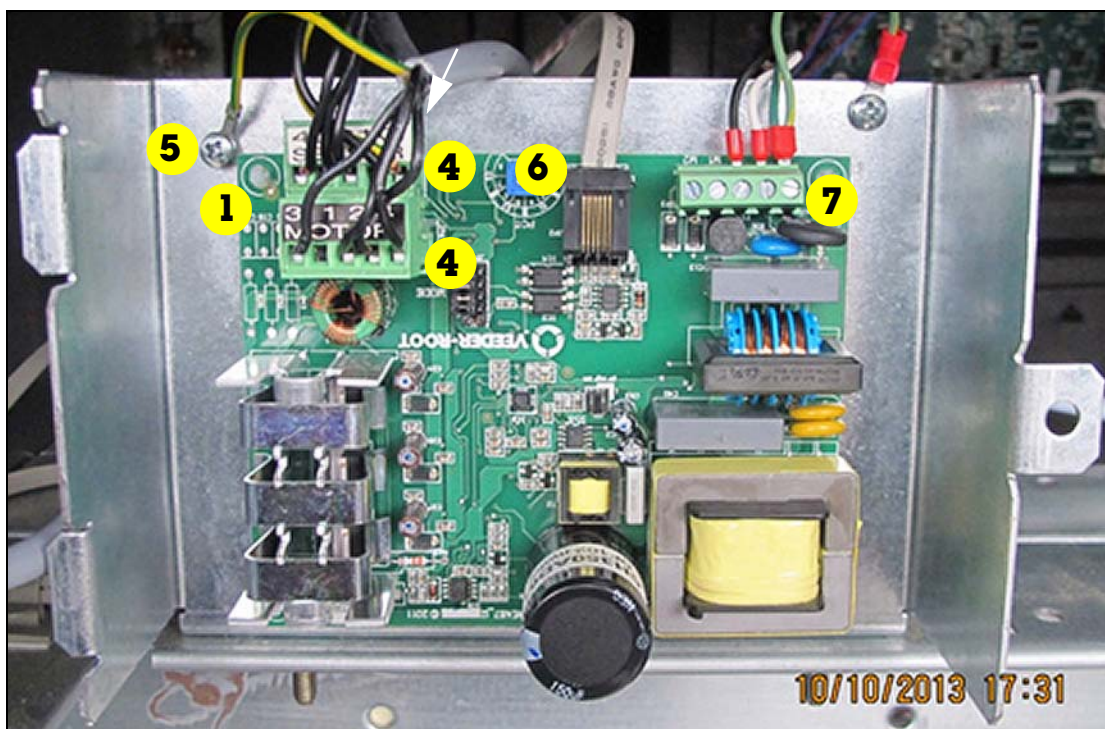

Figure 7. Mount The VaporTEK Controller To The Inside Of The Support Bracket
1. Mount the VaporTEK Controller board to the sheet metal bracket 900852-001 with the 4 stand offs (579081-001) from the kit (Figure 7).
4. Plug the VaporTEK motor and sensor connectors to the VaporTEK Controller board (Figure 7).
5. Attach the motor ground wire to the sheet metal bracket with M3 screw (579158-001) included in the kit (Figure 7).
6. Plug the RJ12 cable socket to the VaporTEK Controller (Figure 7).
7. Attach the 900651-001 input power cables to the VaporTEK Controller (Black: phase; White: Neutral; Green-Yellow: Ground) and attach the Green-Yellow ground wire with the ring terminal to the sheet metal bracket with M3 screw (579158-001). The other end of the cable should be connected to the 230V power source (Figure 7).